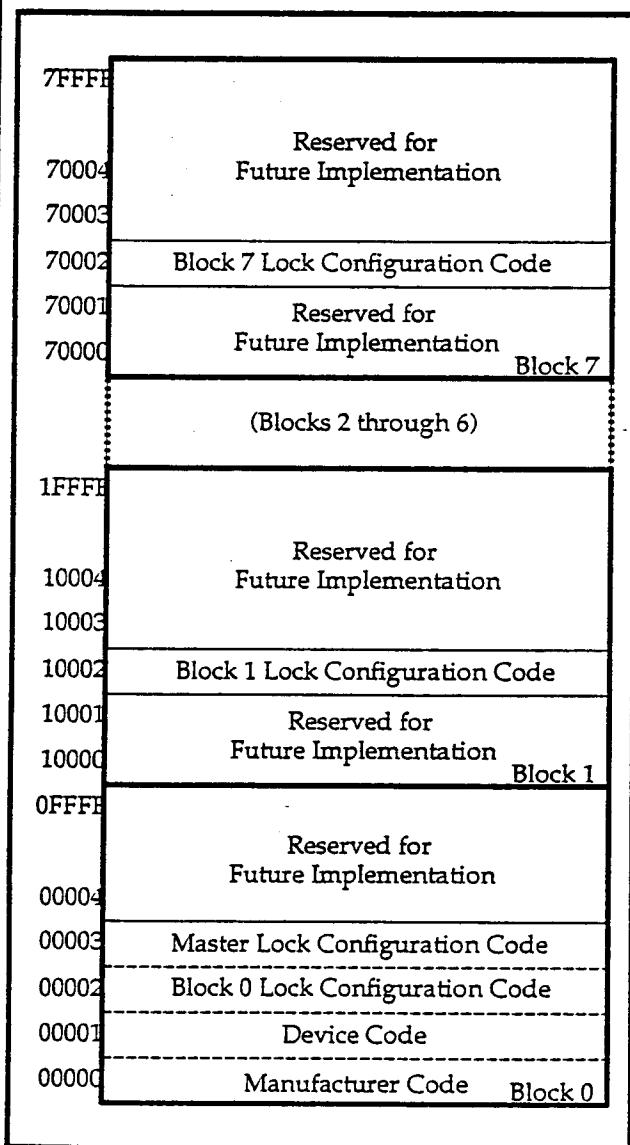

Figure 3. Device Identifier Code Memory Map
The read identifier codes operation outputs the manufacturer code, device code, block lock configuration codes for each block, and the master lock configuration code (see Figure 3). Using the manufacturer and device codes, the system CPU can automatically match the device with its proper algorithms. The block lock and master lock configuration codes identify locked and unlocked blocks and master lock-bit setting.
IA=Identifier Code Address: see Figure 3.
The identifier code operation is initiated by writing the Read Identifier Codes command. Following the command write, read cycles from addresses shown in Figure 3 retrieve the manufacturer, device, block lock configuration and master lock configuration codes (see Table 5 for identifier code values). To terminate the operation, write another valid command. Like the Read Array command, the Read Identifier Codes command functions independently of the V_{PP} voltage and \overline{RP} can be V_{IH} or V_{HH} . Following the Read Identifier Codes command, the following information can be read:
- *1. X selects the specific block lock configuration code to be read. See Figure 3 for the device identifier code memory map.